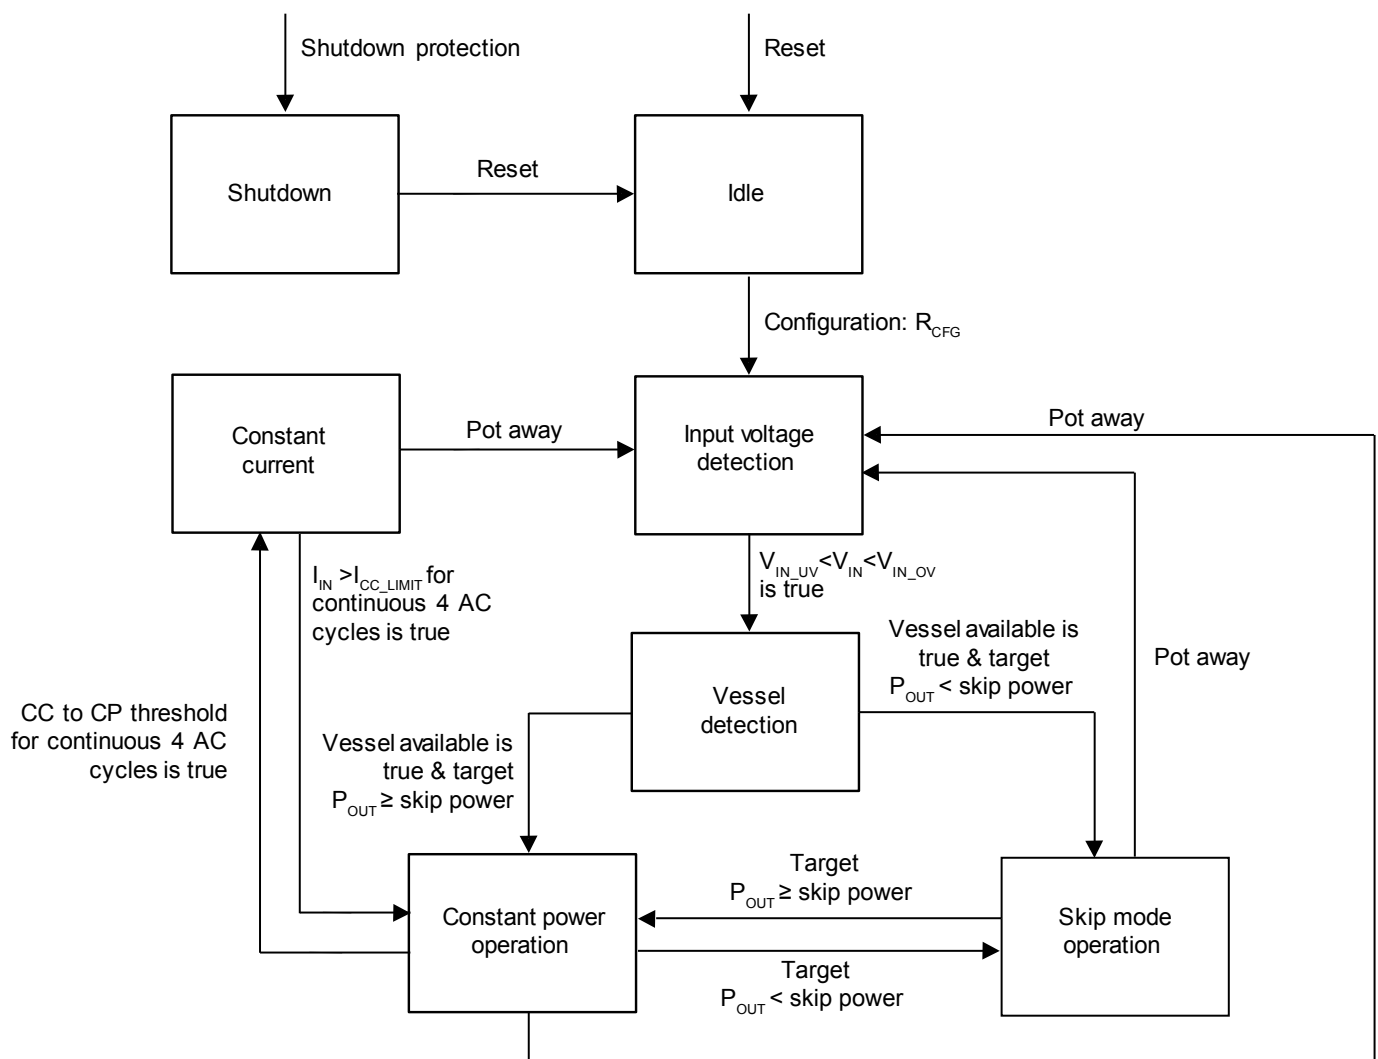

Figure 9.1 : State Machine Diagram
The iW248 is a digital controller with an integrated IGBT driver for inductive (IH) cooking applications. Once V_{CC} reaches the startup threshold level (Figure 9.1), the controller operates in idle mode and is ready to receive instructions from the user interface MCU. Soon after the iW248 receives instructions, it starts to detect and determine the input line voltage. If the input line voltage is within the operation range, the controller enters pot detection mode. The iW248 features an innovative pot detection method by detecting the number of rings on V_{CE} of the IGBT. A pulse is sent out at DRV pin every second by default, a pot is detected if the number of rings on V_{CE} is less than nine. When a pot is detected, the iW248 goes to constant power mode operation or constant current mode according to the input line voltage.
Figure 9.1 outlines the state machine diagram.